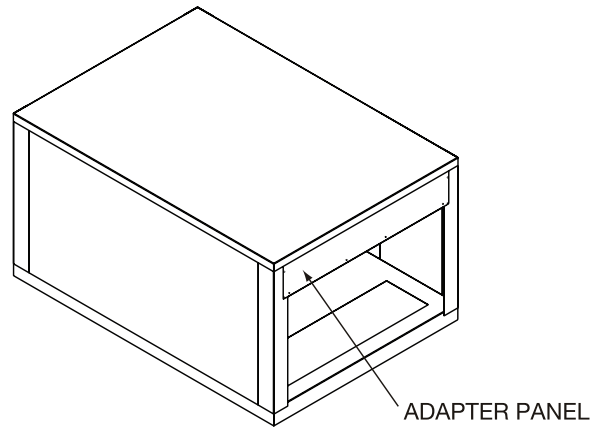

Fig. 30 — Secure Adapter Panel to Unit
6. Locate the adapter panel (provided if necessary). Position the adapter panel at the top of the return air access panel under the rooftop unit top panel. Secure the adapter panel to the rooftop unit using the supplied no. 10-16 x $\frac{1}{2}$ screws as shown in Fig. 30.